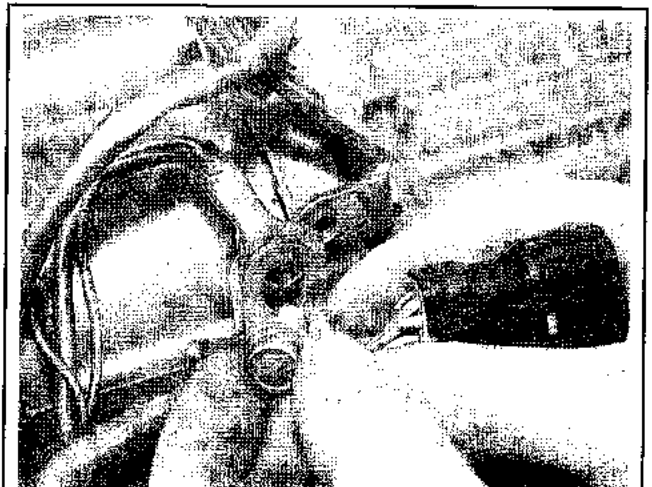

Fig. 20 It may be necessary to remove brackets or other components to make starter removal easier
▶ See Figures 20, 21, 22 and 23